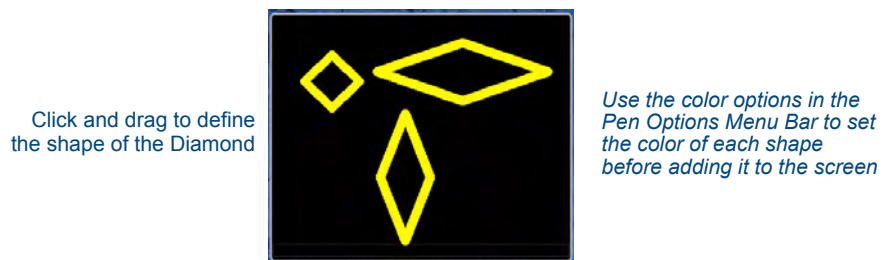

FIG. 110 Drawing Diamonds
- **Diamonds** - The diamond tool draws equilateral diamonds (FIG. 110):